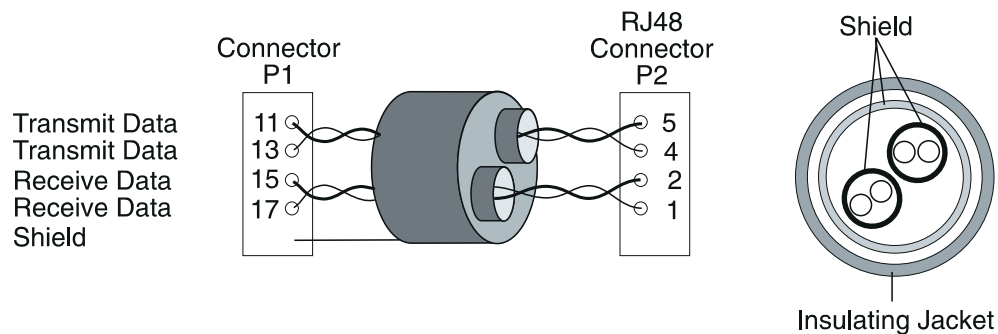
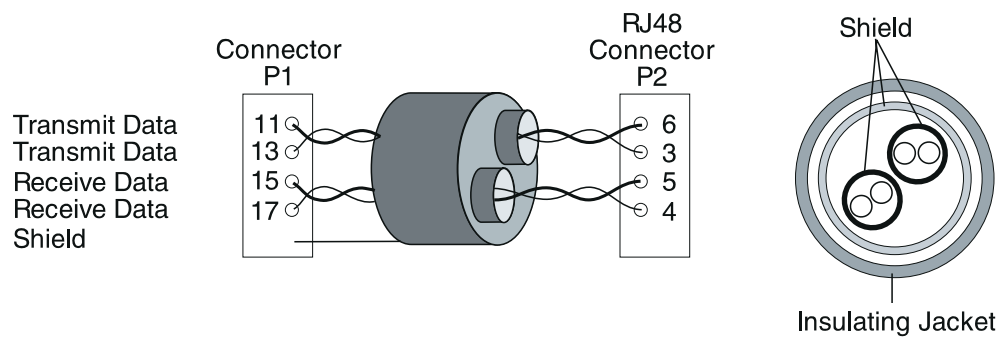

Figure 32. RJ-48 Twisted-Pair T1 Cable
Figure 33. RJ-48 Twisted-Pair J1 Cable
- Two twisted pairs, AWG 24, 100 ohms (see Figure 32 on page 125 or Figure 33 on page 125).